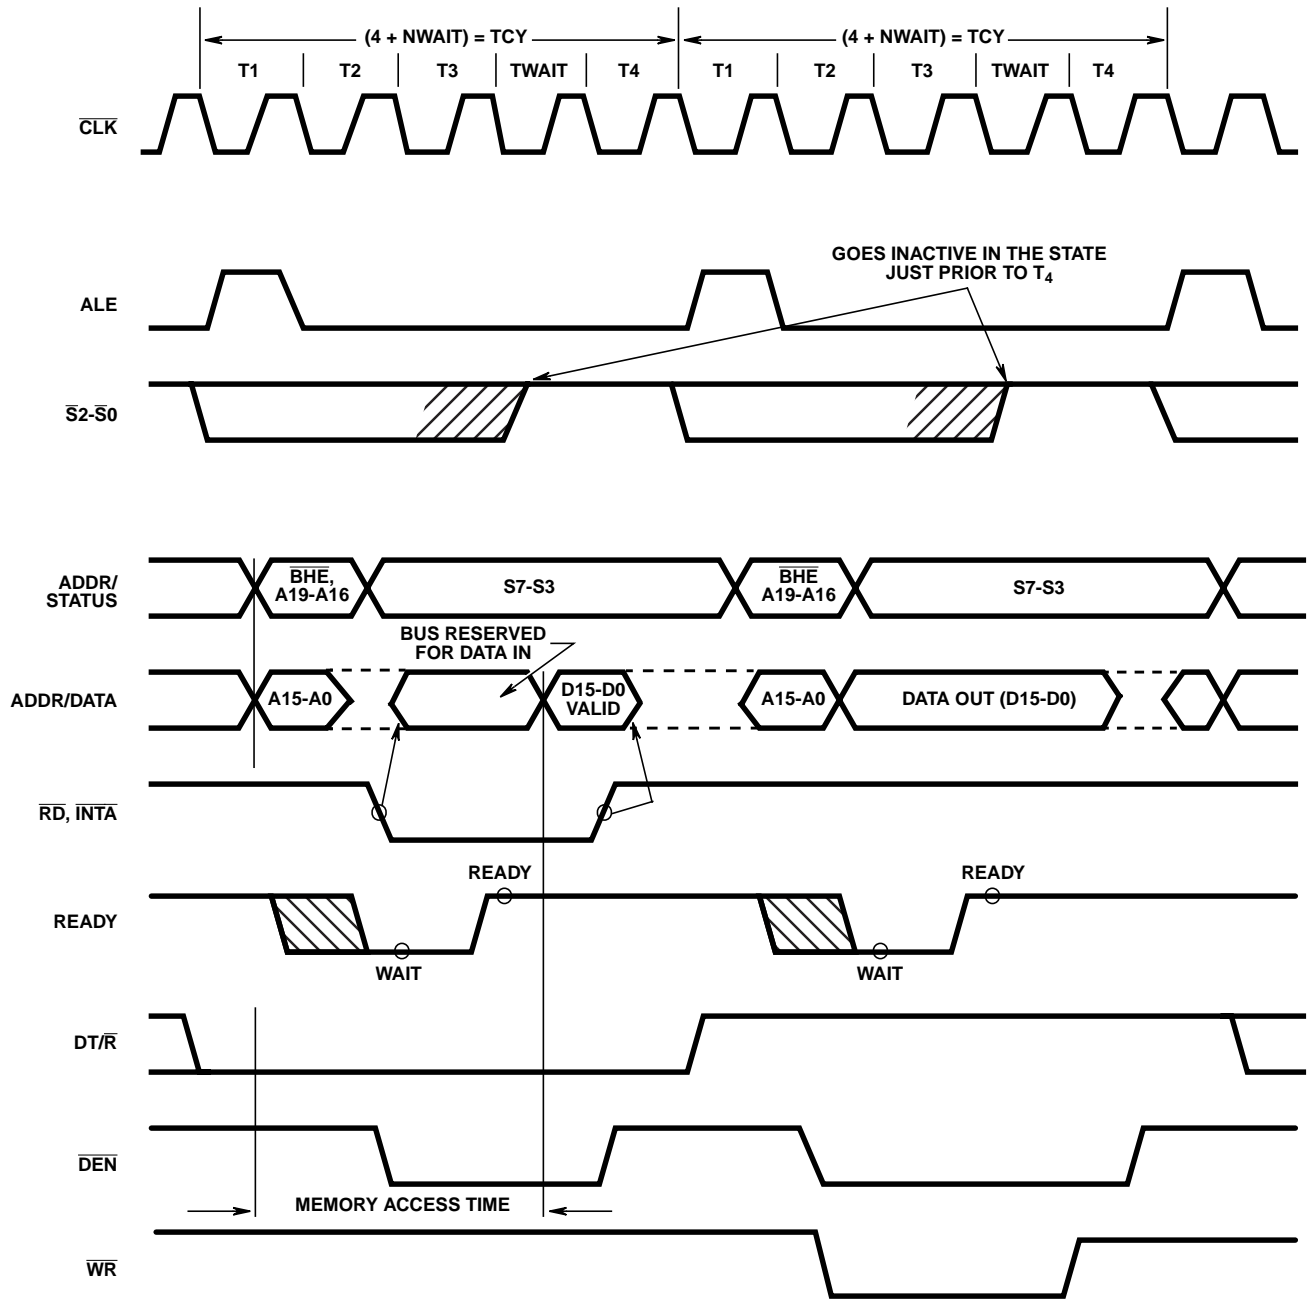
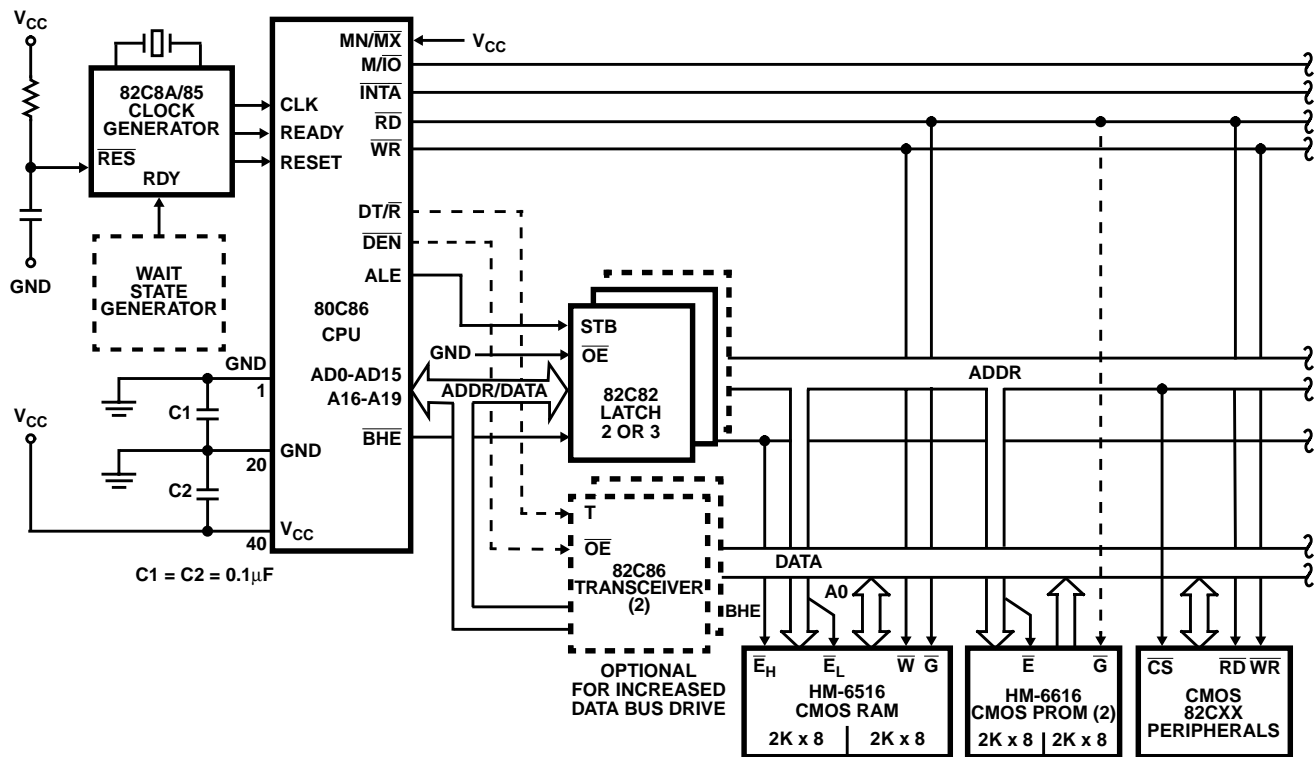

FIGURE 3. BASIC SYSTEM TIMING
FIGURE 6A. MINIMUM MODE 80C86 TYPICAL CONFIGURATION
The demultiplexed mode requires two 82C82 latches (for 64K addressability) or three 82C82 latches (for a full megabyte of addressing). An 82C86 or 82C87 transceiver can also be used if data bus buffering is required. (See Figure 6A.) The
Each processor bus cycle consists of at least four CLK cycles. These are referred to as T1, T2, T3 and T4 (see Figure 3). The address is emitted from the processor during T1 and data transfer occurs on the bus during T3 and T4. T2 is used primarily for changing the direction of the bus during read operations. In the event that a "NOT READY" indication is given by the addressed device, "Wait" states (TW) are inserted between T3 and T4. Each inserted wait state is the same duration as a CLK cycle. Periods can occur between 80C86 driven bus cycles. These are referred to as idle" states (T_I) or inactive CLK cycles. The processor uses these cycles for internal housekeeping and processing.
Typical system configurations for the processor operating in minimum mode and in maximum mode are shown in Figures 6A and 6B, respectively. In minimum mode, the MN/MX pin is strapped to VCC and the processor emits bus control signals (e.g. RD, WR, etc.) directly. In maximum mode, the MN/MX pin is strapped to GND and the processor emits coded status information which the 82C88 bus controller uses to generate MULTIBUS compatible bus control signals. Figure 3 shows the signal timing relationships.